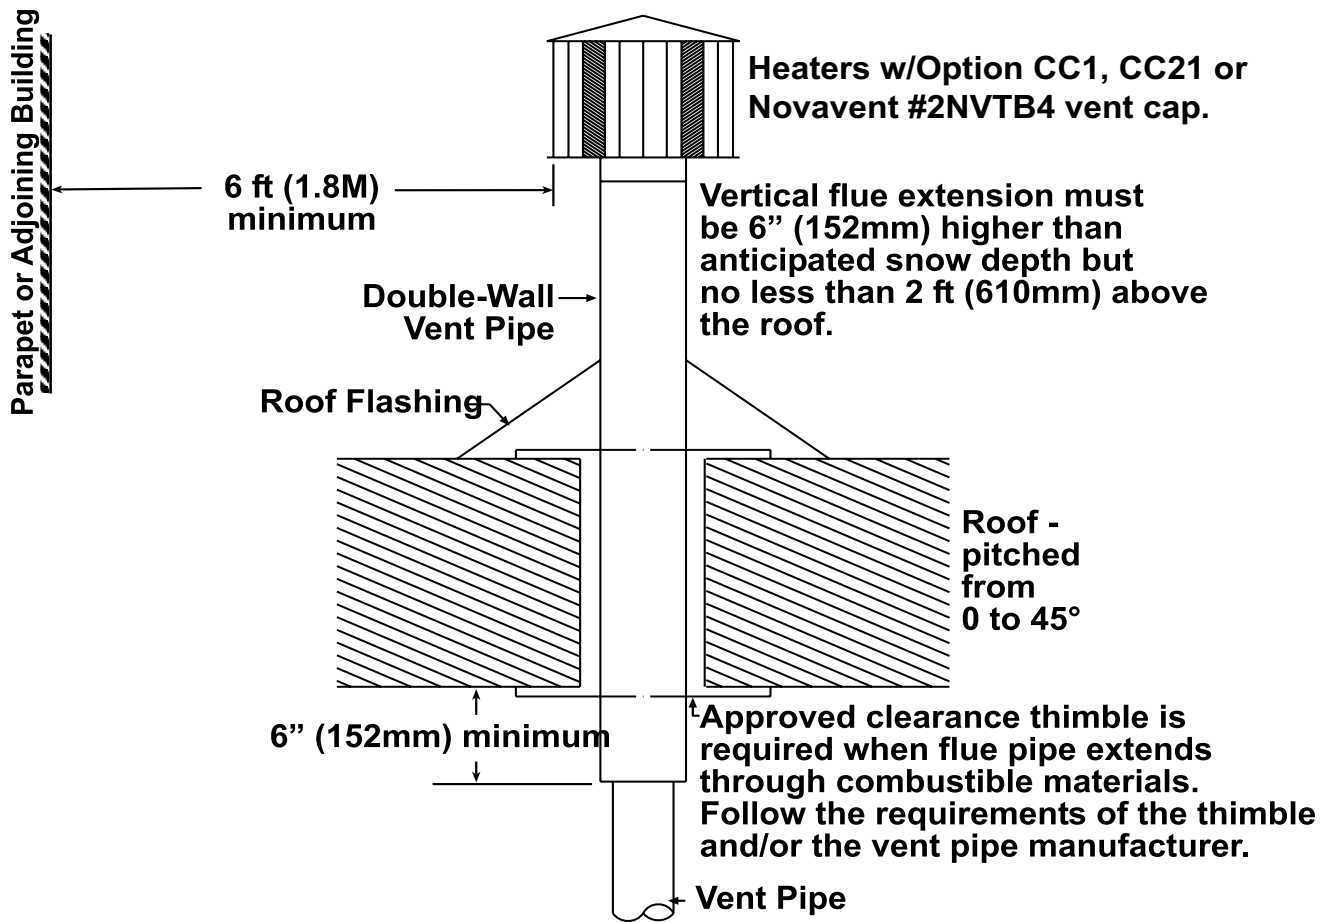

Figure 3. Vertical Vent Terminal (Commercial/Industrial Installations)
- c. Refer to instructions shown in Figure 3 to install vertical vent terminal.